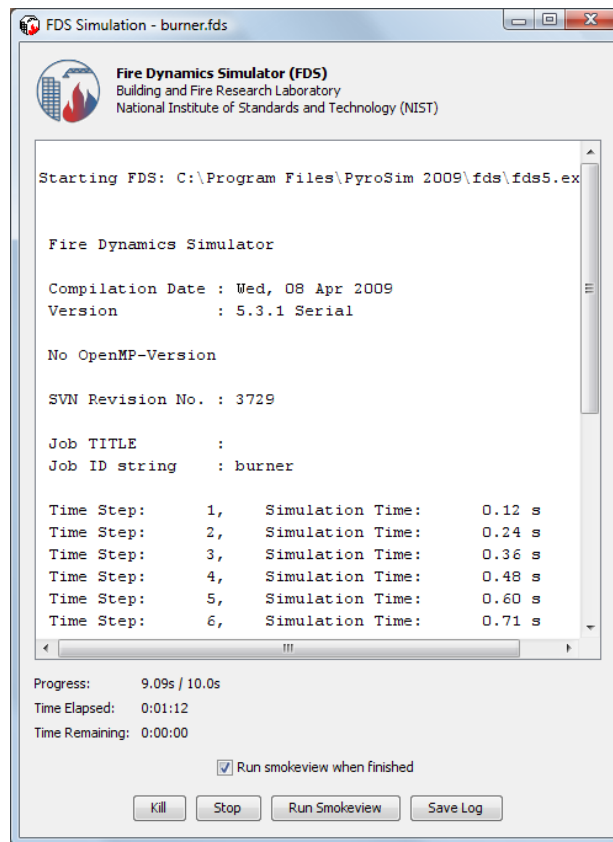

Figure 3.7. The simulation dialog during the analysis.
4. The **FDS Simulation** dialog will appear and display the progress of the simulation. By default, PyroSim specifies a 10 second simulation. This should take approximately 1 minute to run depending on computing hardware, Figure 3.7.